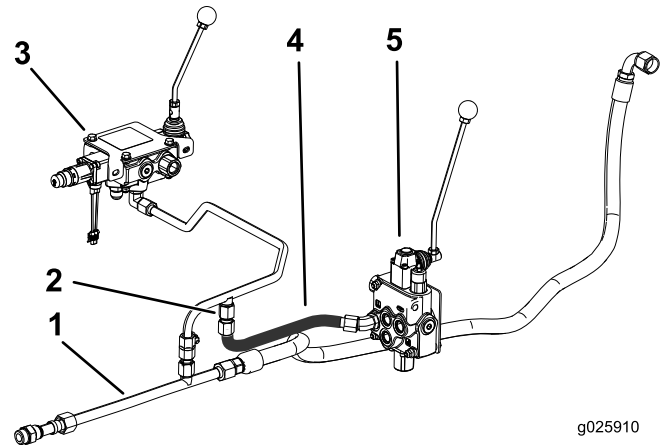

Figure 27
6. Remove the cap on the tube coming from the trencher valve to the tube line (Figure 27).
7. Connect a hydraulic tube from the hydra-borer valve (Port T) to the trencher tube as shown in Figure 27.